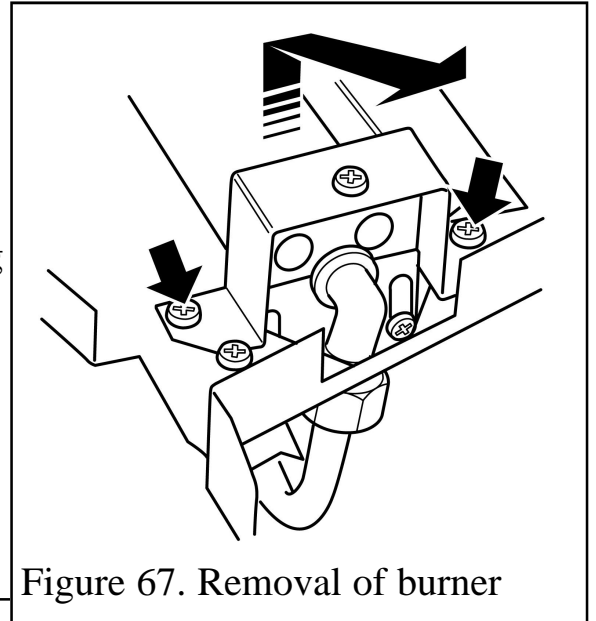

Figure 67. Removal of burner
(See figure 67).
3. Remove the two screws from the burner clamping plate (See figure 67).